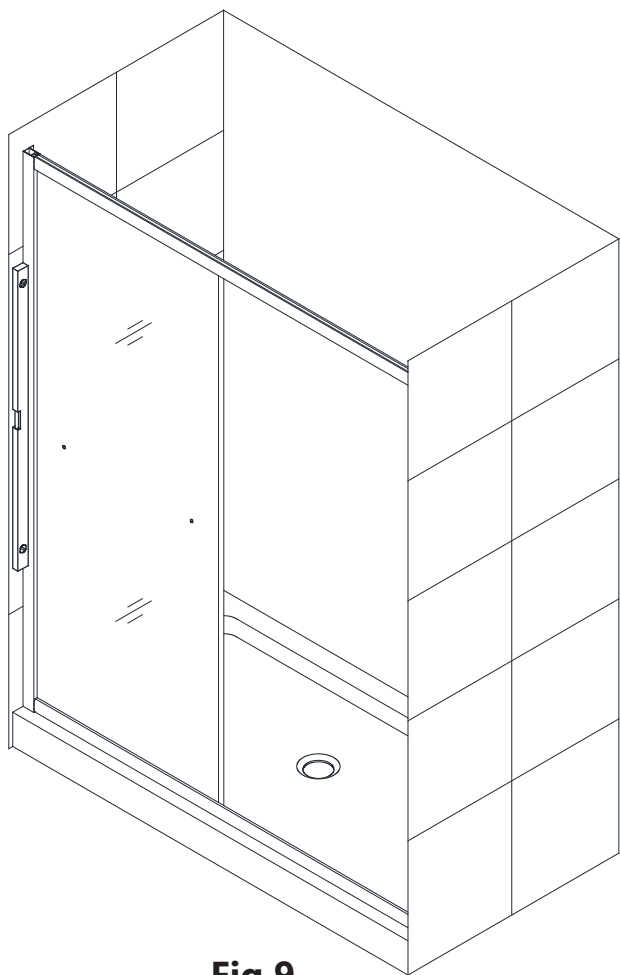

Fig 9
9. Move the assembled frame into the designated position on the shower base*, bathtub or threshold (depending on your installation), and push the **Wall Profiles (#02)** tight to the walls to compensate for any out-of-plumb conditions. Push the bottom rail down tight to the threshold and adjust the frame to a vertical position. Confirm with a level before marking the holes for drilling. **(Fig 9)**